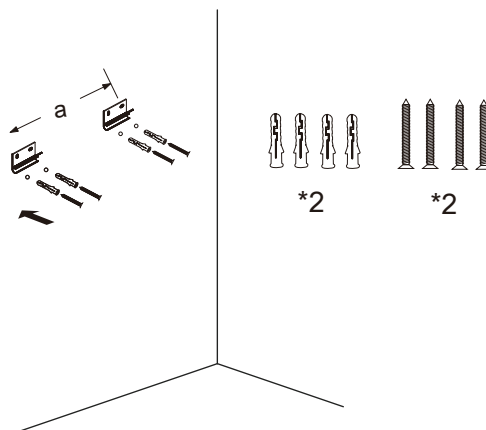

Fig. 2
4. Use the hammer to strike an expansion rubber plug into the holes on the wall, and then screw the bracket into the hole (Fig. 2).